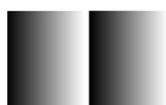

Figure 3: Test patterns for 2923MAM and 2315MAM detectors.
8. Click on **Test Mode** then click **Snap**. A quad grey-scale pattern should appear, as in Figure 3. This indicates that the detector unit is communicating correctly with the PC.